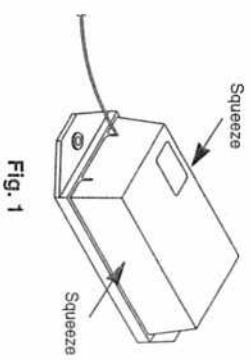

Fig. 1
**Remove new Receiver Cover (Fig. 1).**